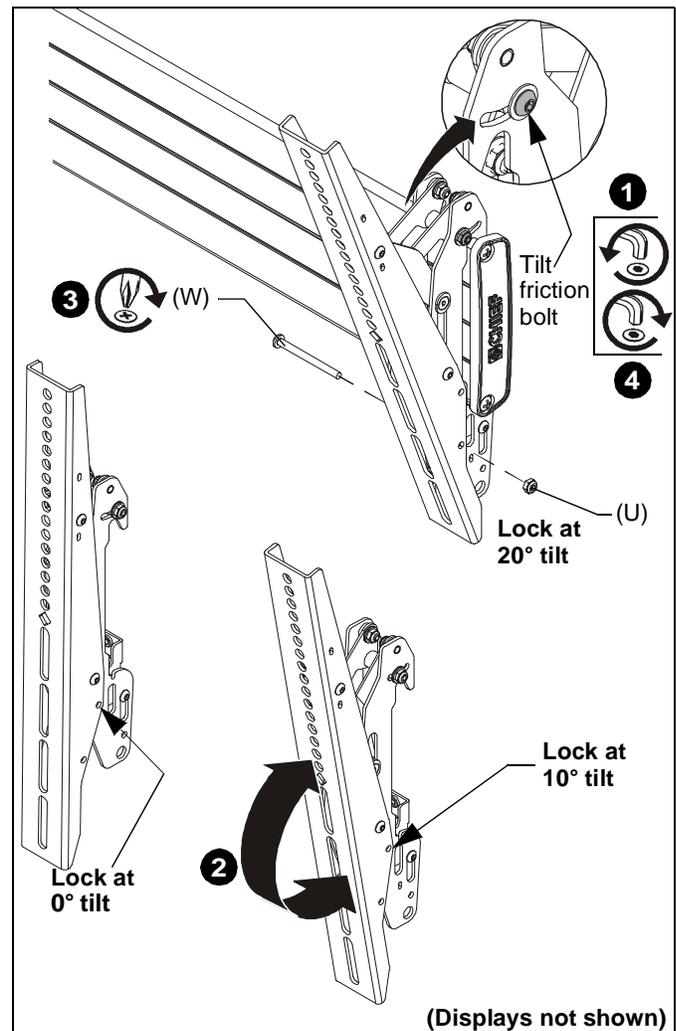

Figure 24
1. If necessary, loosen button head tilt friction bolt (located on side of interface bracket). (See Figure 24)
2. Adjust tilt as required. (See Figure 24)
3. The tilt may be locked at 0°, 10° and 20° using one 10-24 x 2-1/4" Phillips head screw (W) and one 10-24 lock nut (U) per interface bracket. (See Figure 24)